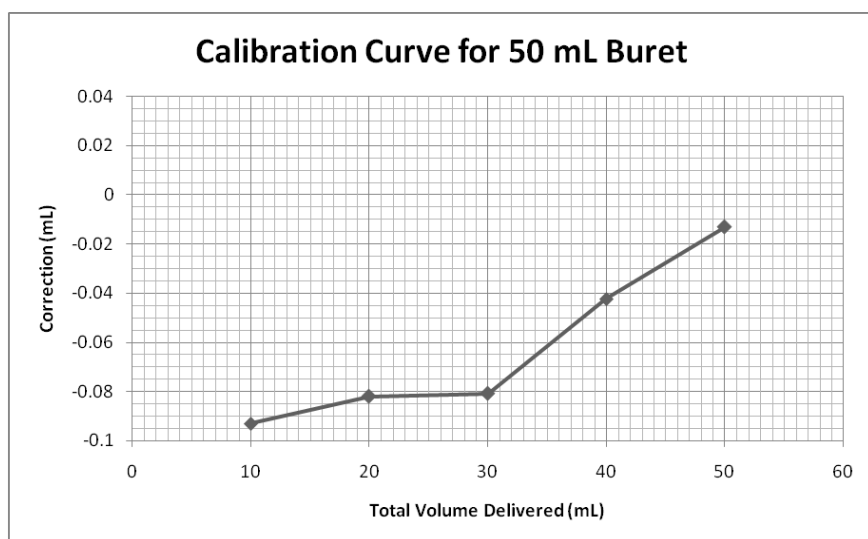

Figure 1
12. Make a calibration curve for your buret like the one shown in Figure 1 below.